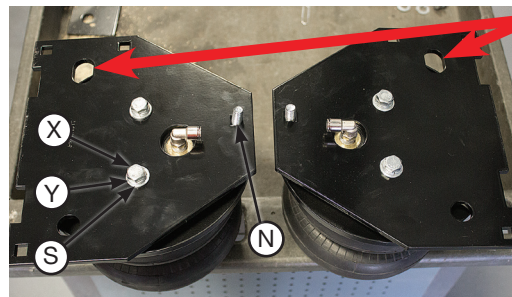

fig. D.6
1. Install the swivel elbow fitting (W) into the top of the air spring finger tight. Tighten the swivel fitting an additional one and a half turns. Place a roll plate (K) on top of the air spring (Fig. D.6).